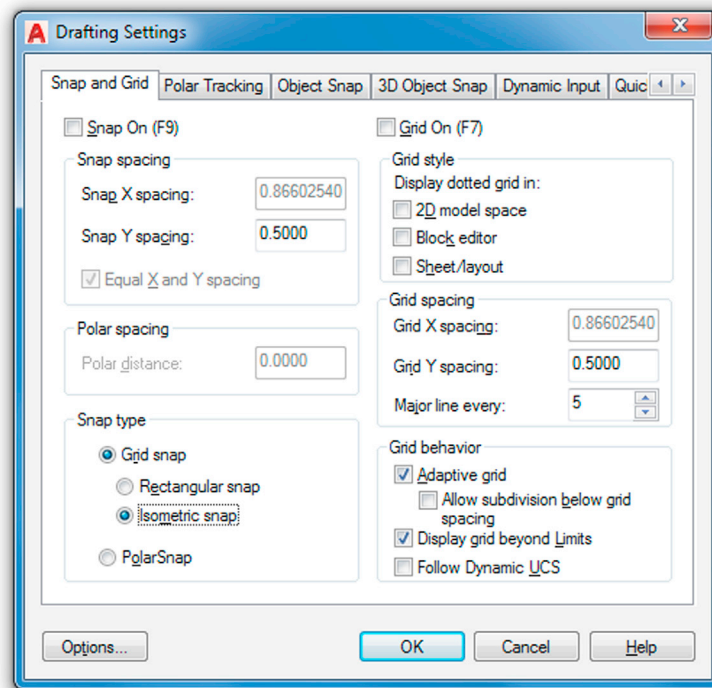

FIGURE 20.3 Drafting Settings with Isometric snap selected.
Step 2. From the cascading menu select Tools→Drafting Settings..., and the dialog box seen in Fig. 20.3 appears.
Step 3. Pick the Snap and Grid tab, go to the Snap type category (lower left), pick Isometric snap, and press OK. Fig. 20.3 is a screen shot of the Drafting Settings dialog box with Isometric snap selected.